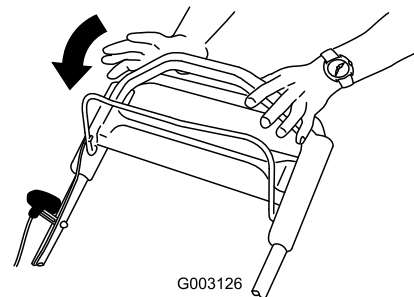

**Figure 17**
3. Hold the blade control bar against the handle (Figure 17).